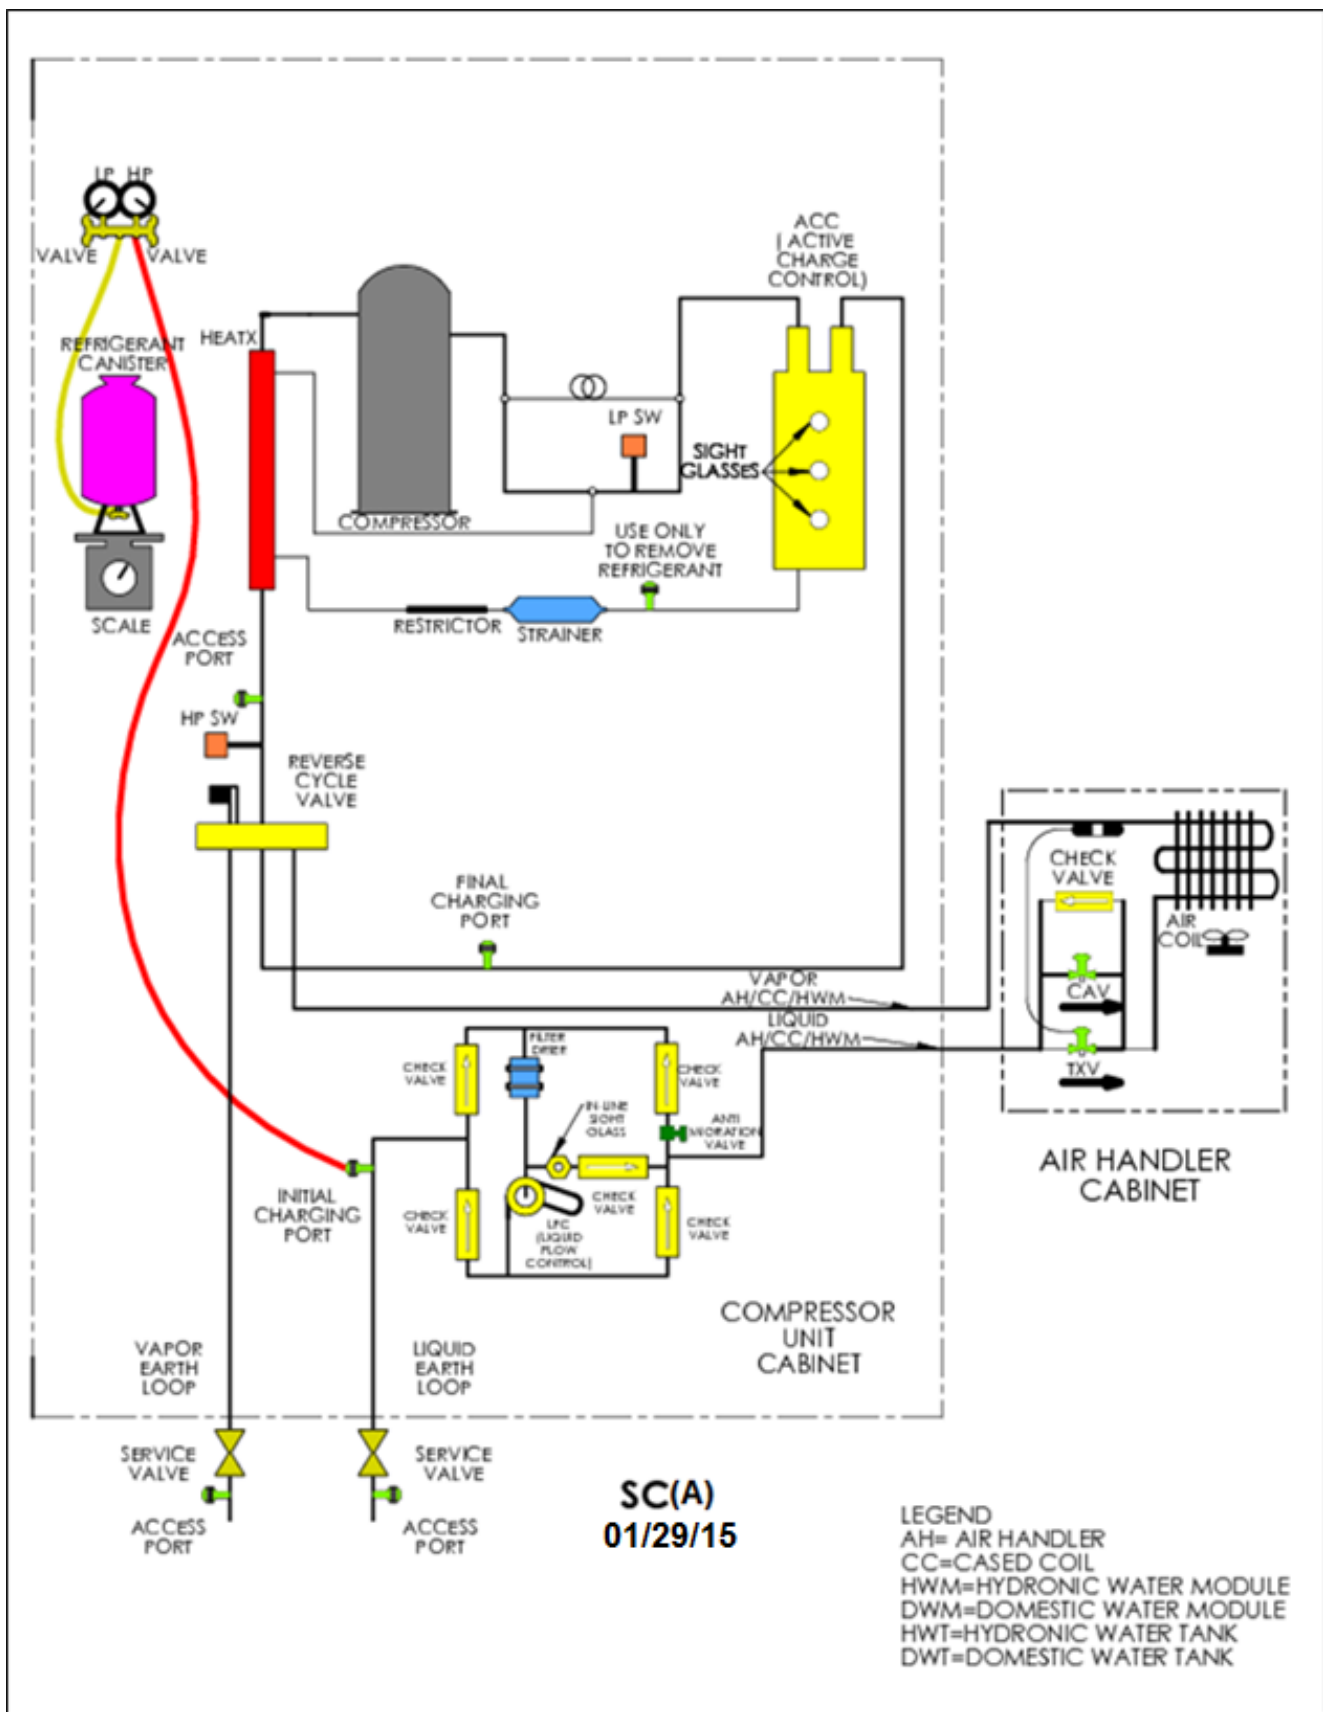
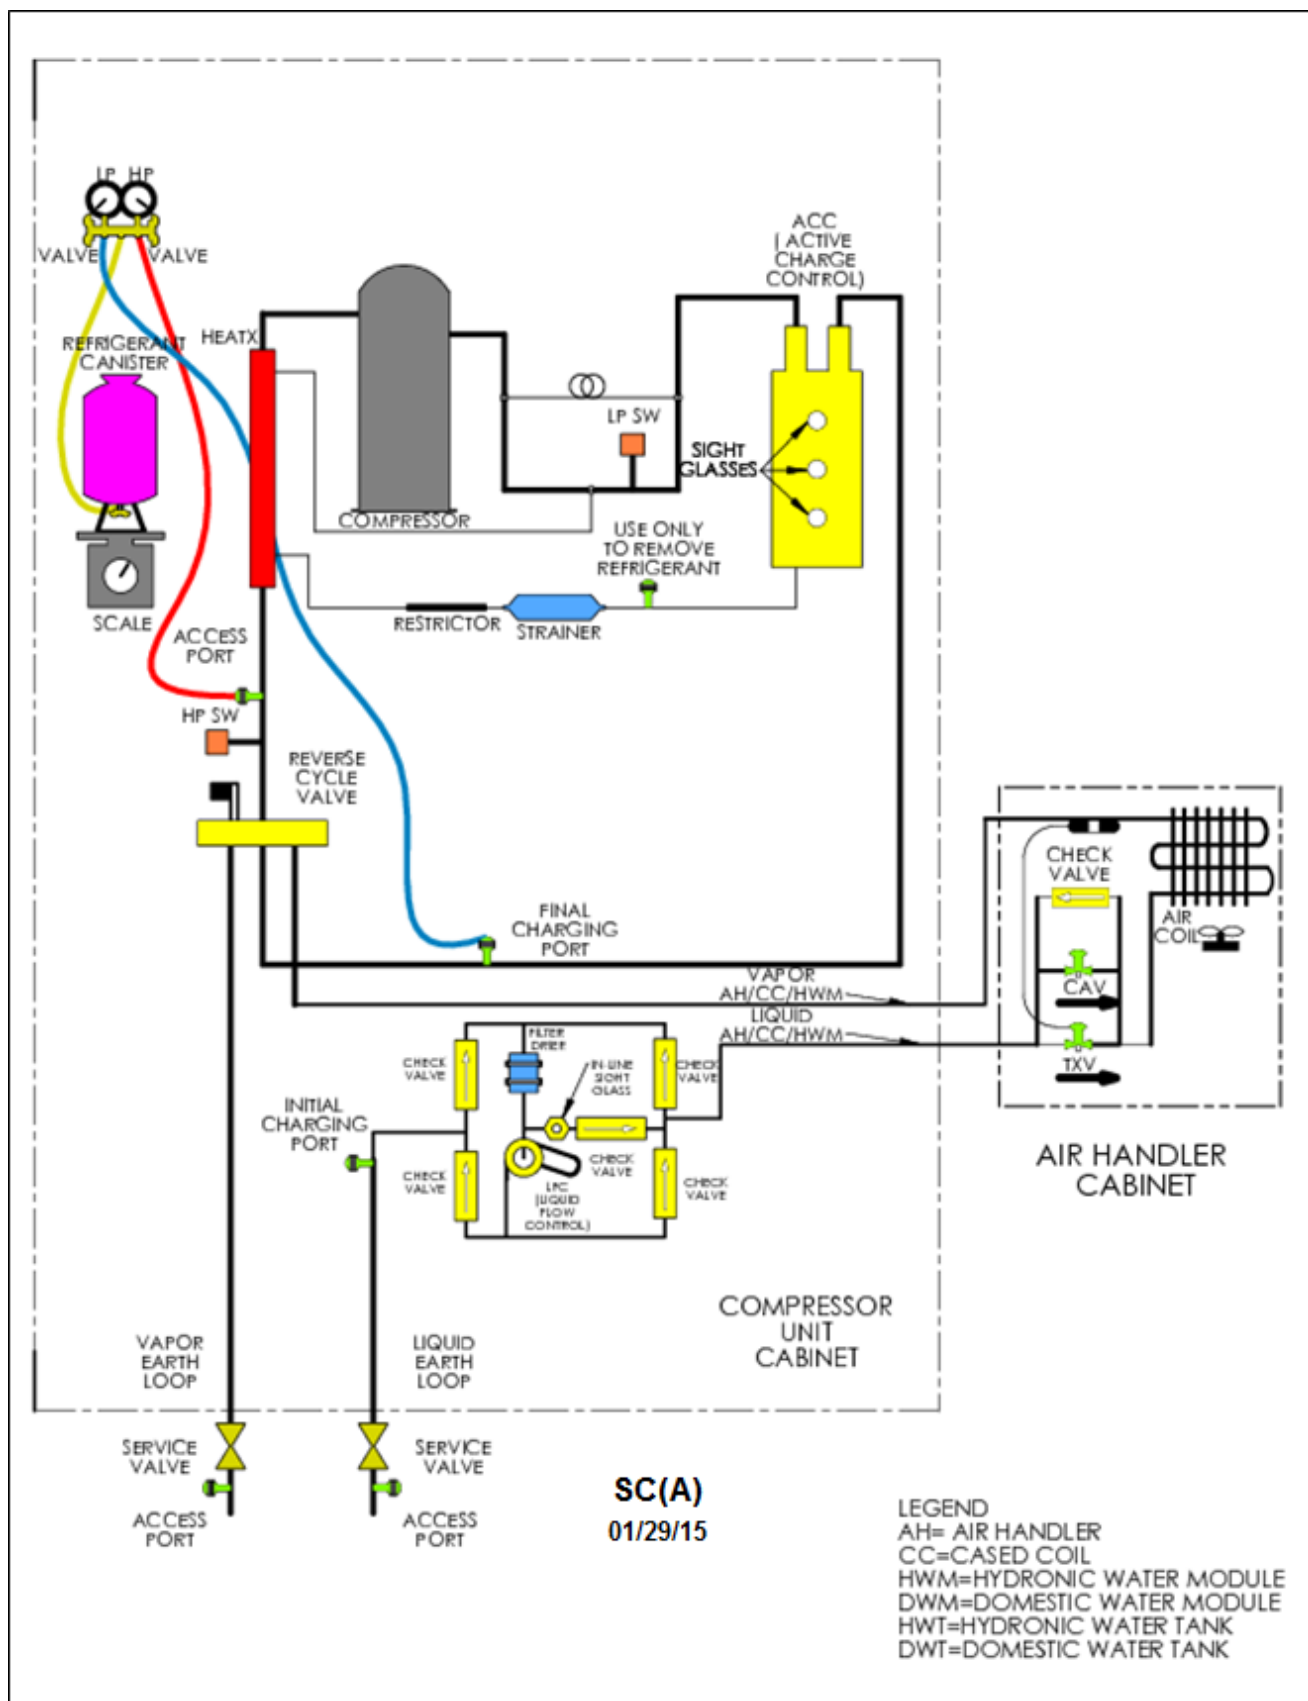

Figure 27. Initial Charge of SC(A) System
Figure 28. Final Charge of SC(A) System
1. Close the LP and HP valves on the gage block. Disconnect and isolate the vacuum pump and digital micron gage. Connect the refrigerant container (on the scale) to the gage block utility hose as shown in Figure 27.
2. Open the refrigerant container valve and inject liquid refrigerant into the initial charging port as shown in Figure 27.
The final charging procedure is as follows, with the final charging set up described in Figure 28.
1. Re-connect the red HP hose, after purging with a trickle of refrigerant, (from the initial charging port in Figure 27) to the access port as shown in Figure 28. Continue measuring the refrigerant charge weight as shown in Figure 28.